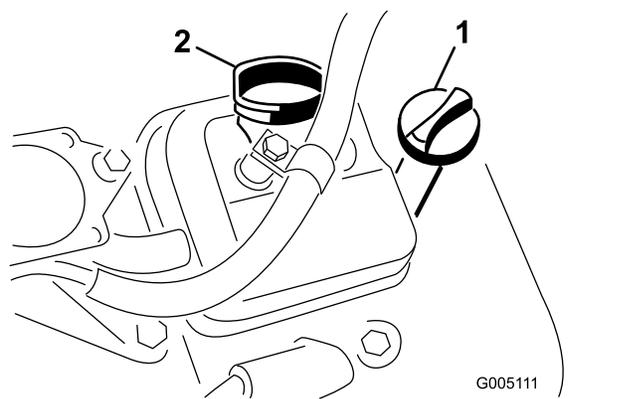

Figure 26
3. Insert the dipstick into the dipstick tube and thread it into the tube (Figure 26).